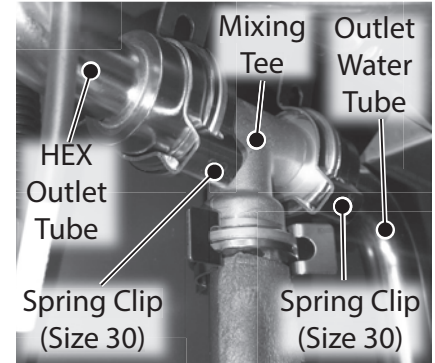

Figure 200 - Remove spring clips from HEX outlet tube and outlet water tube
16 Remove the two (2) spring clips (size 30) securing mixing tee to HEX outlet tube and outlet water tube as shown in Figure 200. Place spring clips aside in a safe place for reinstallation.